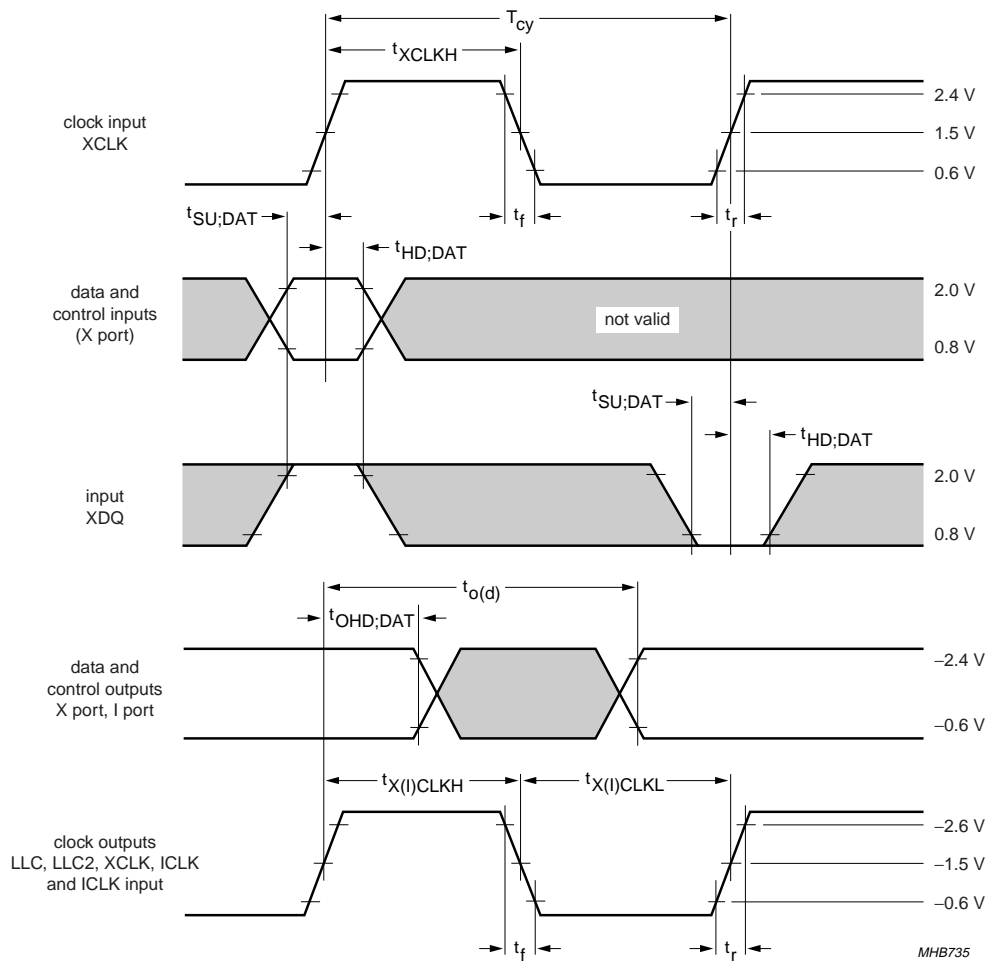

Fig.43 Data input/output timing diagram (X-port, RT port and I-port).
- The effects of rise and fall times are included in the calculation of $t_{\text{OHD;DAT}}$ and t_{PD} . Timings and levels refer to drawings and conditions illustrated in Fig.43.